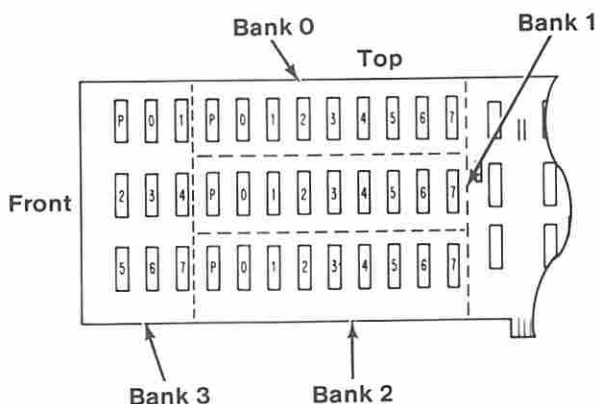

Figure 11. 64/256KB Memory Expansion Option
- Refer to Figure 11 and find the failing bank identified by the first character of the error code.